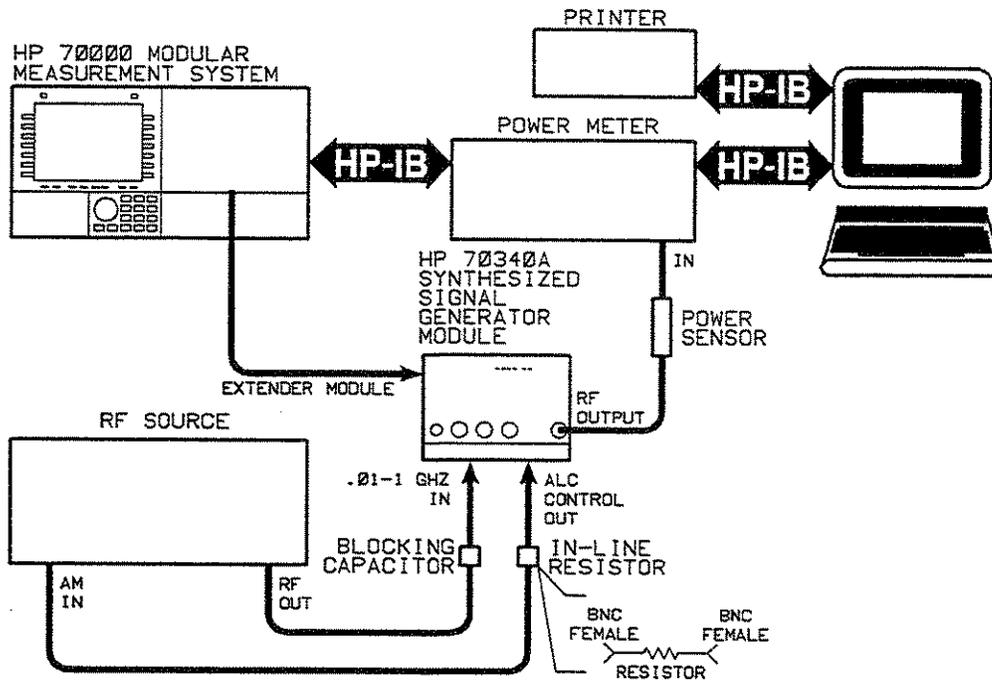

Figure 3-12. Attenuator Low Band Calibration Equipment Setup - Part 1
1. Set up the equipment as shown in Figure 3-12.